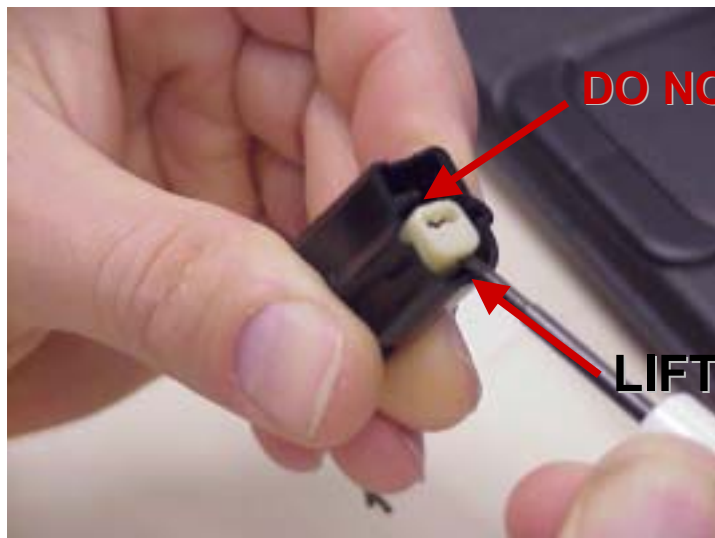

FIG. 3-6
- n If TPA is locked you must move it to the pre-lock position by carefully lifting up on the upper side of the TPA using a 3.5 mm flat blade screw driver. This must be done as shown in FIG. 3-6